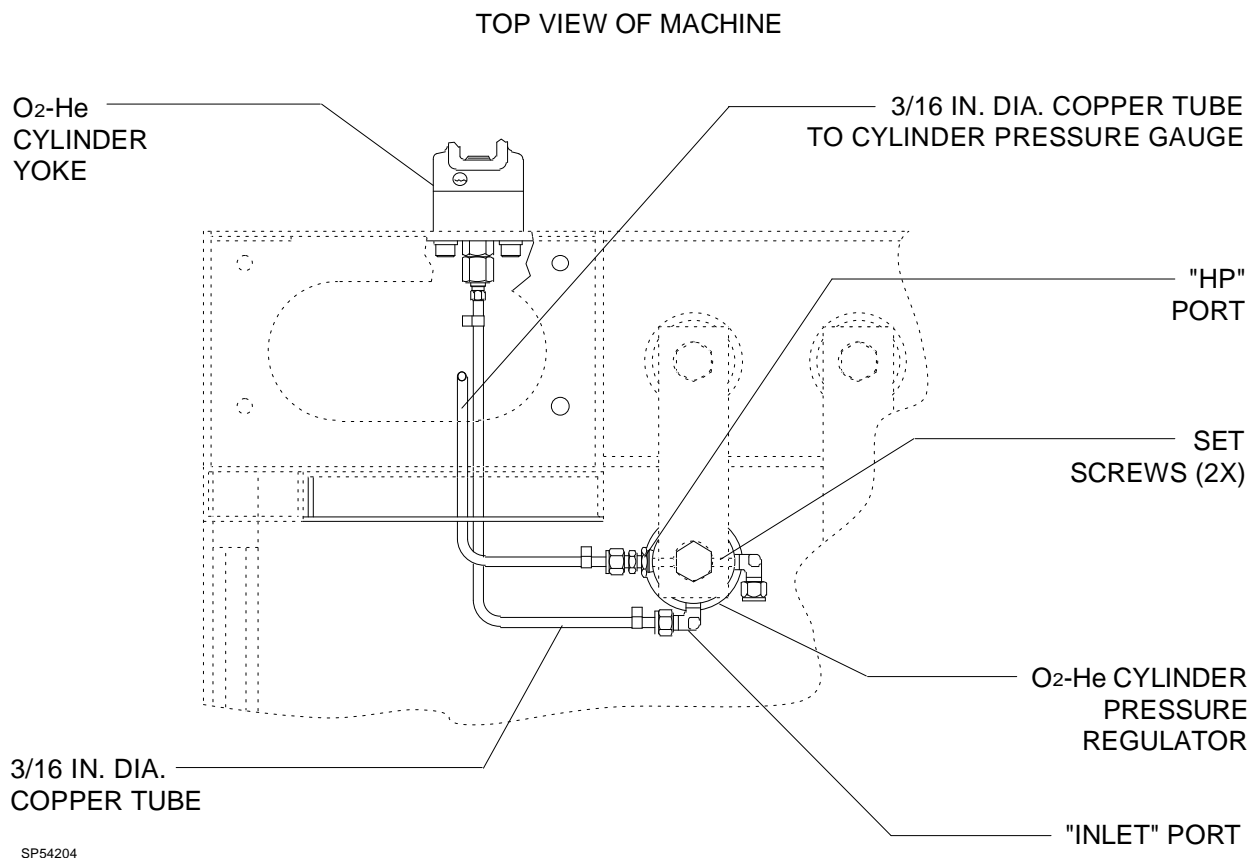

Figure 4: O₂-He CYLINDER REGULATOR MOUNTING AND H.P. CONNECTIONS
21. Position the O₂-He cylinder pressure regulator assembly as shown in Figure 4, with the Inlet marking toward the front of the machine.
25. Connect a 3/16 in. dia. (P/N 4104214) pre-bent copper tube between the O₂-He cylinder gauge that was previously installed, and the port marked "HP" on the O₂-He cylinder regulator. See Figure 4. Ensure that the tubing is inserted correctly, and tighten the fittings securely. Install a "O₂-He" label on each end of this tube.